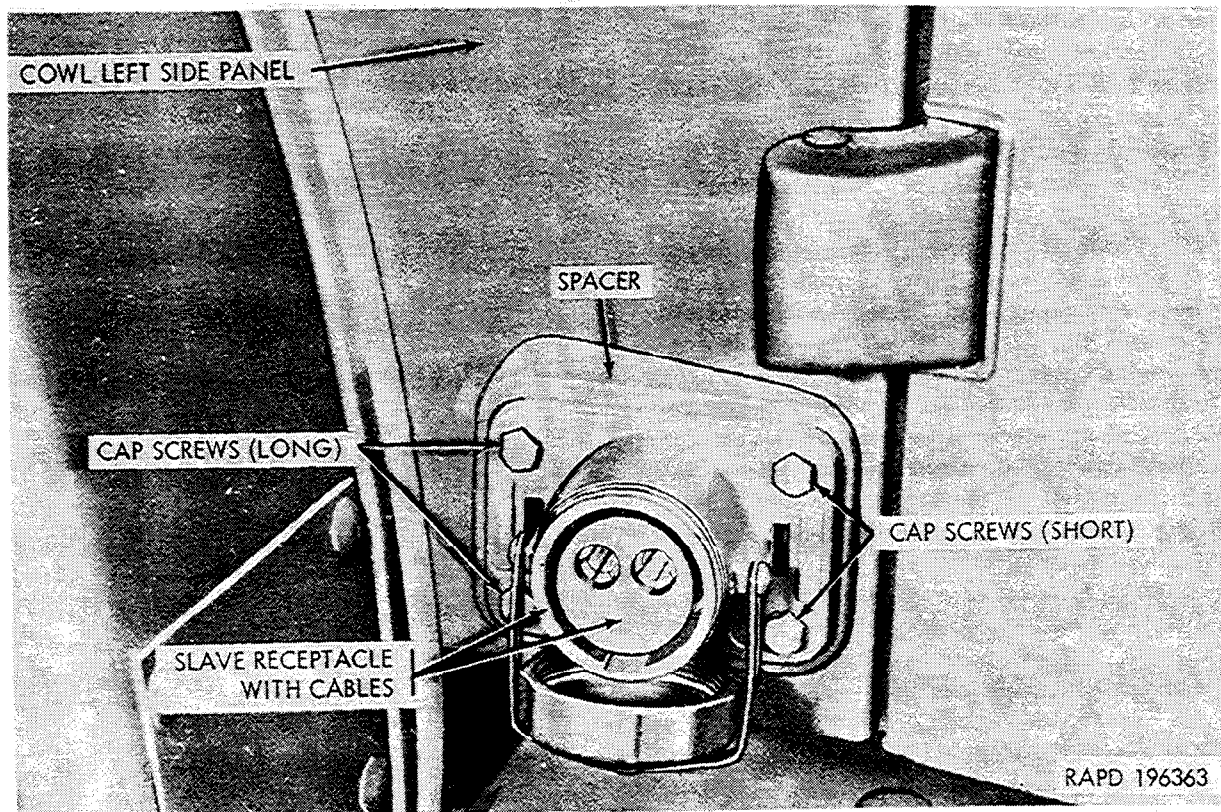

Figure 2-26. Auxiliary power receptacle installed.
(4) Remove the nut, two lockwashers, and bolt that attach the receptacle ground cable to the left running board front hanger.
(5) Remove the two screws that secure the grommet retainer to the inner side of the cowl panel, and slide the retainer and the grommet off the cables.
(6) Remove the four bolts and lockwashers that secure the receptacle to the spacer on the cowl panel (fig. 2-26) and remove the receptacle with cables.
(1) Insert the receptacle cables through the opening in the spacer and the cowl panel, with the short (ground) cable toward the rear of the vehicle. Position the receptacle on the spacer, and install the two lockwashers and capscrews in the two rear holes, and two lockwashers and capscrews in the two front holes (fig. 2-26). Tighten the screws.
(2) Install the grommet over the cables, and thread the cables through the grommet retainer